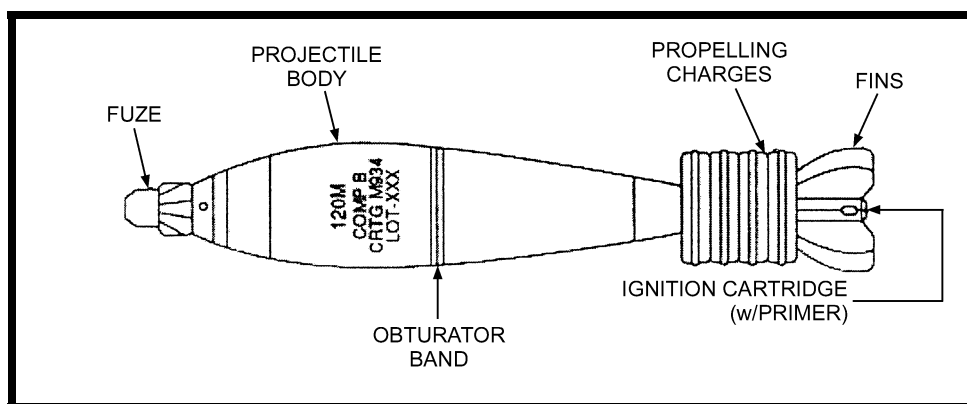
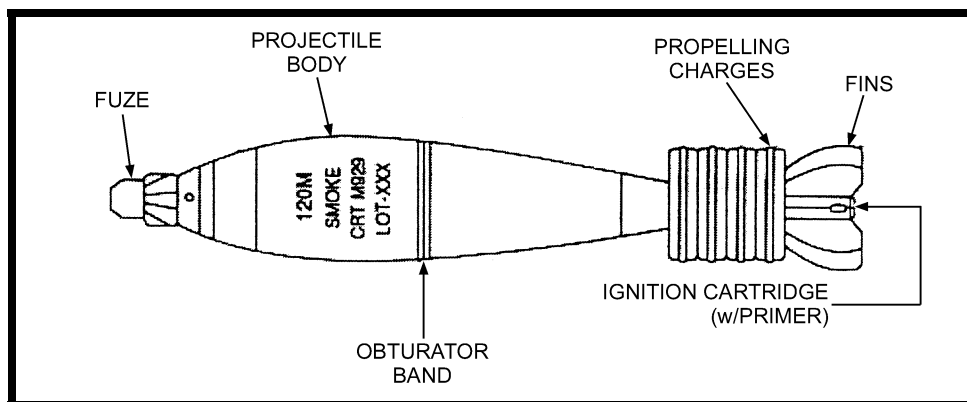

Figure 7-13. M934 HE cartridge.
Figure 7-14. M929 smoke cartridge.
e. **M934 HE Cartridge** (Figure 7-13).
- (1) Type and use: High explosive fragmentation and blast.
- (2) Identification: Olive drab with yellow markings.
- (3) Components: M745 PD fuze; M230 propelling charge.
- (4) Maximum range: 7,200 meters at charge 4.
- (5) Minimum range: 200 meters at charge 0.
f. **M929 Smoke Cartridge** (Figure 7-14).
- (1) Type and use: Smoke (white phosphorus); screening and spotting.
- (2) Identification: Light green with light red markings.
- (3) Components: M745 PD fuze, M230 propelling charge.